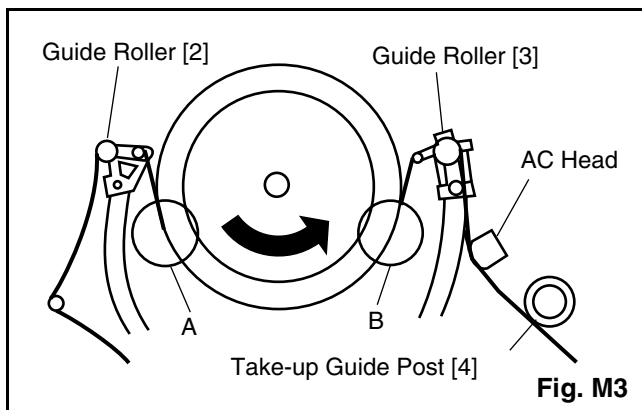

Fig. M3
1. Playback a blank cassette tape and check to see that the tape runs without creasing at Guide Rollers [2] and [3], and at points A and B on the lead surface. (Refer to Fig M3 and M4.)
2. If creasing is apparent, align the height of the guide rollers by turning the top of Guide Rollers [2] and [3] with a Guide Roller Adj. Screwdriver. (Refer to Fig. M3 and M5.)
3. Check to see that the tape runs without creasing at Take-up Guide Post [4] or without snaking between Guide Roller [3] and AC Head. (Fig. M3 and M5)
2. Playback the Gray Scale on the Alignment Tape (FL6NS8). Set the Tracking Control Circuit to the center position by pressing CH UP button and then "PLAY" button on the unit. Adjust the height of Guide Rollers [2] and [3] (Fig. M3, Page 2-3-3) watching the oscilloscope display so that the envelope becomes as flat as possible. To do this adjustment, turn the top of the Guide Roller with the Guide Roller Adj. Screwdriver.
3. If the envelope is as shown in Fig. M7, adjust the height of Guide Roller [2] (Refer to Fig. M3) so that the waveform looks like the one shown in Fig. M9.
4. If the envelope is as shown in Fig. M8, adjust the height of Guide Roller [3] (Refer to Fig. M3) so that the waveform looks like the one shown in Fig. M9.
5. When Guide Rollers [2] and [3] (Refer to Fig.M3) are aligned properly, there is no envelope drop either at the beginning or end of track as shown in Fig. M9.
Note: Upon completion of the adjustment of Guide Rollers [2] and [3] (Refer to Fig. M3), check the X Value by pushing the CH UP or DOWN buttons alternately, to check the symmetry of the envelope. Check the number of pushes to ensure center position. The number of pushes CH UP button to achieve 1/2 level of envelope should match the number of pushes CH DOWN button from center. If required, redo the "X Value Alignment."